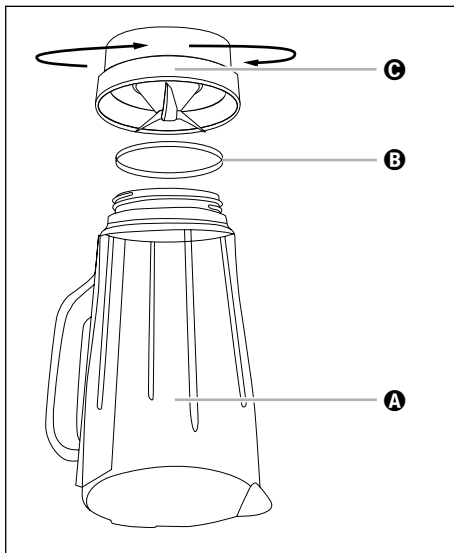

Fig. 4
- 2) Turn the appliance upside down and turn the plastic part Ⓒ of the blender ③ anticlockwise so that it can be detached from the glass part Ⓐ of the blender attachment ③ (see fig. 4).
- 6) If necessary, reinsert the sealing ring Ⓑ into the plastic part Ⓒ correctly. Then place the plastic part Ⓒ of the blender ③ back on the glass part Ⓐ of the blender ③ and turn the plastic part Ⓒ clockwise.